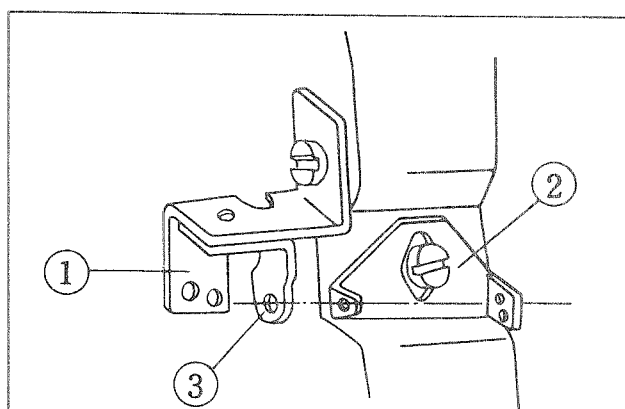

Fig. 29
(2) Forked needle thread guide (Fig. 29)
Provide forked needle thread guide ② with a vertical position as shown in Fig. 29 when the needle is in the lowest position.
(3) Needle thread take-up guide (Fig. 29)